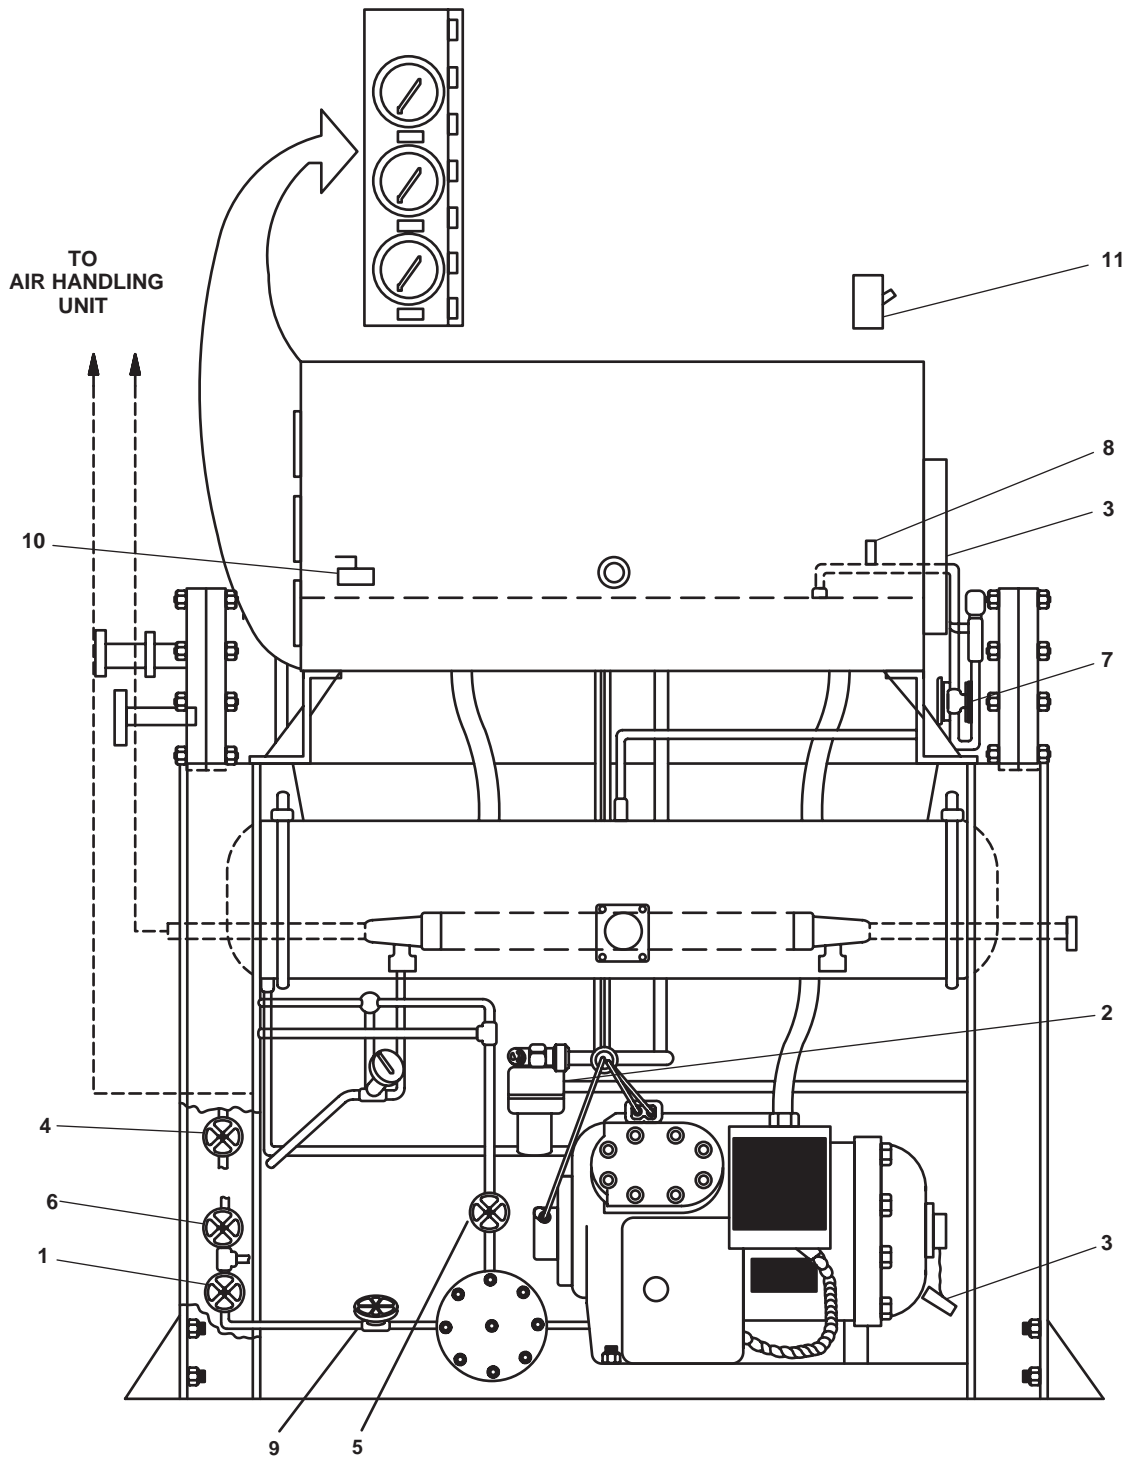

Figure 1. Air Conditioning Condenser Unit
6. When there is evidence of liquid refrigerant return to the compressor, adjust COMPRESSOR SUCTION valve (figure 1, item 3) until proper suction pressure (2.3 to 2.4 PSI) is indicated on the suction gauge.
- a. Close the DEHYDRATOR INLET valve (figure 1, item 1) on the condenser being shut down.
- a. OPEN COMPRESSOR DISCHARGE valve (figure 1, item 2).
- b. OPEN COMPRESSOR SUCTION valve (figure 1, item 3). Use refrigeration ratchet wrench
- c. OPEN CONDENSER OUTLET valve (figure 1, item 4).
- d. OPEN DEHYDRATOR OUTLET valve (figure 1, item 5).
- e. CLOSE DEHYDRATOR BY-PASS valve (figure 1, item 6).
- f. OPEN DEHYDRATOR INLET valve (figure 1, item 1).
- g. OPEN RELIEF VALVE BY-PASS valve (figure 1, item 7). Use refrigeration ratchet wrench
- h. CLOSE PURGE valve (figure 1, item 8). Use refrigeration ratchet wrench.
- i. CLOSE CHARGE AND DRAIN valve (figure 1, item 9).
- j. OPEN WATER REGULATOR VALVE ACTUATING LINE valve (figure 1, item 10).
- a. Set the power switch (figure 1, item 11) to ON.